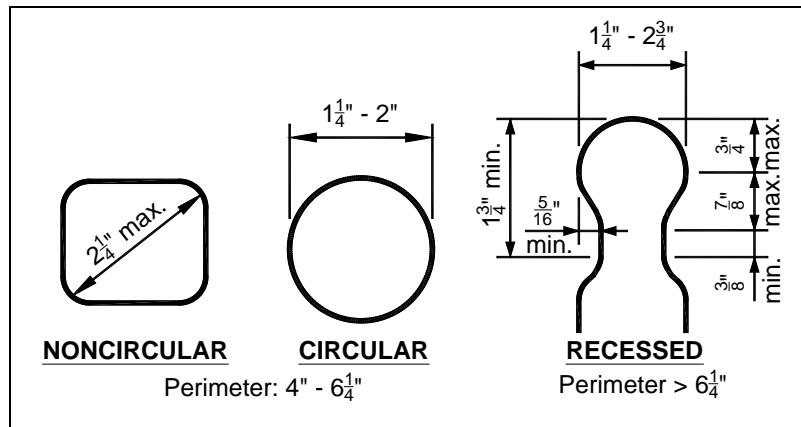

FIGURE 37: HANDBRAIL GRASPABILITY TYPES/GEOMETRY
- Handrails shall be graspable per FIGURE 37.